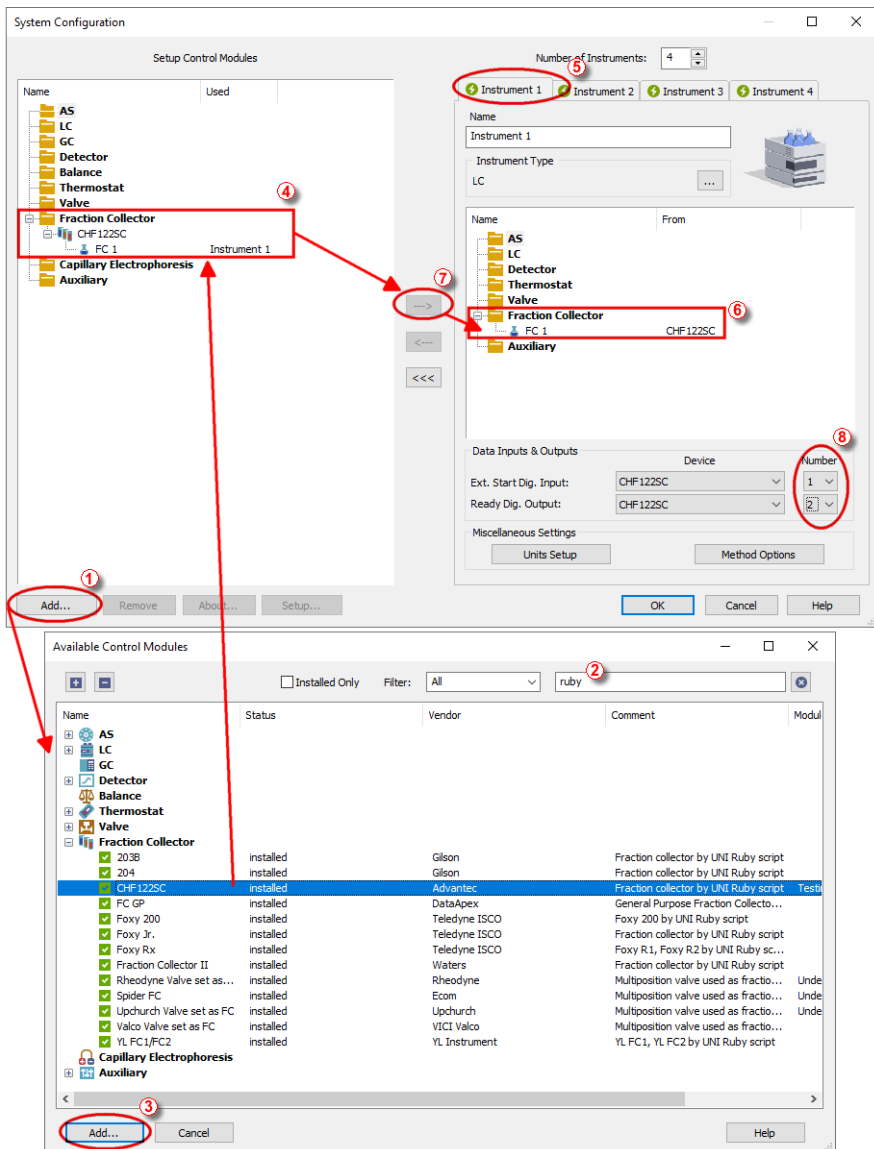

Fig 3: How to Add UNI Ruby module
- Press the **Add** button (① on **Fig 3** on pg 4.) to invoke the **Available Control Modules** dialog.
- You can specify the search filter (②) to simplify the finding of the driver.
- Select the correct item and press the **Add** (③ on **Fig 3** on pg 4.) button. Each device with already created UNI profile should have its own item named accordingly in the **Available Control Modules** dialog.